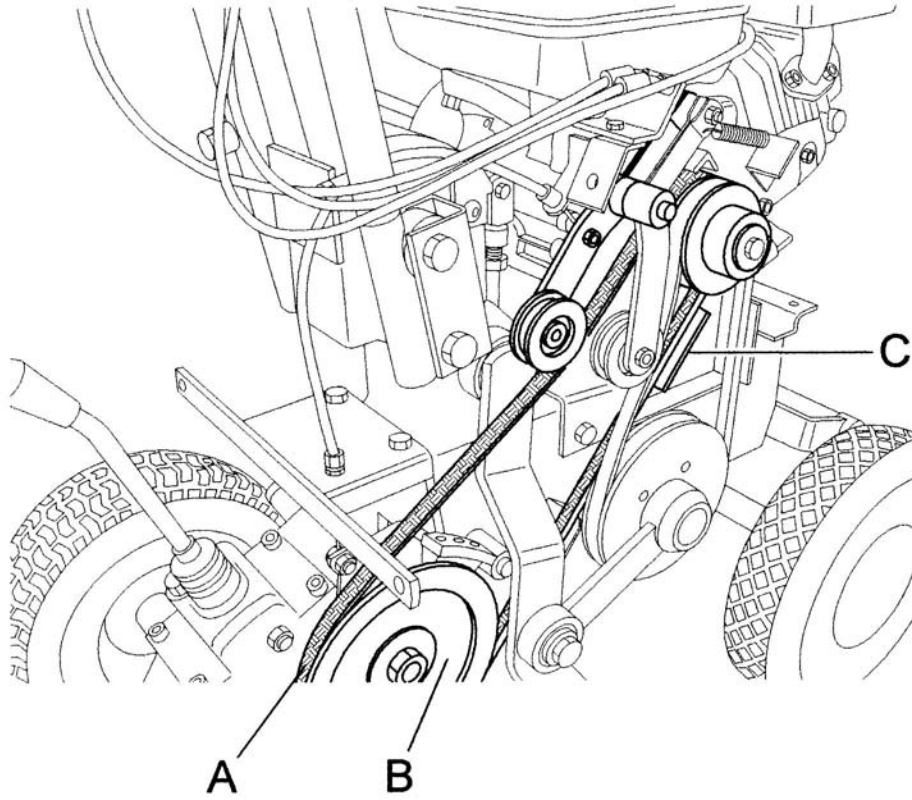

Figure 8
- Then remove the forward control belt from the lower pulley by turning the belt anticlockwise (Fig. 8 Ref. A e B)
- Afterwards check that the belt is positioned and working correctly using the relative forward control lever. When this lever is lowered and the belt is at maximum tension, the distance between the belt and the relative belt guides (Fig. 8 Ref. C) should be approximately 2 mm.